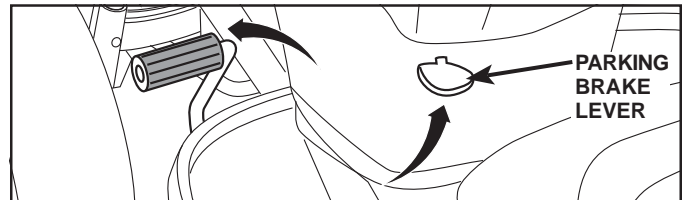

Fig. 3
### TO INSTALL MOWER AND DRIVE BELT (See Figs. 3 - 15)
1. **SET PARKING BRAKE LEVER AND LOWER ATTACHMENT LIFT LEVER (See Fig. 3 and 4)**